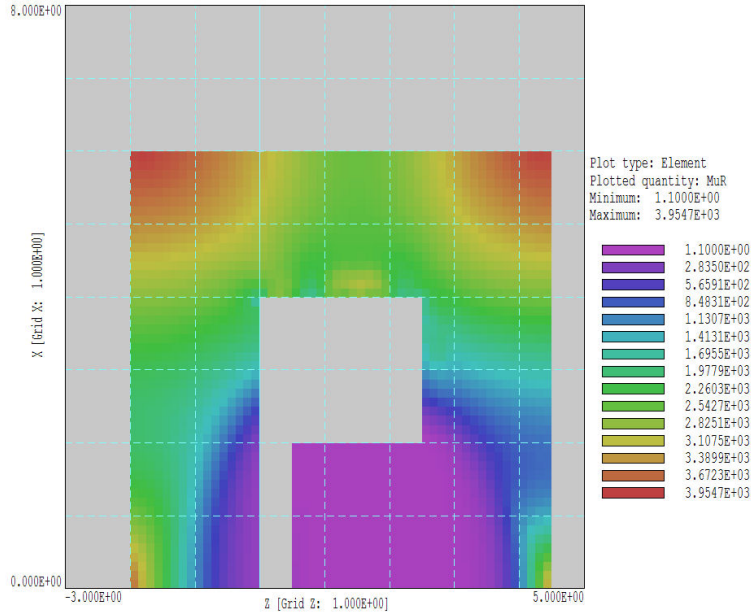

Figure 34: Spatial distribution of  $\mu_r$  for the final **Magnum** solution in the plane  $y = 0.0$ .
**PerMag** results at  $NCycle = 17$ . The peak value computed by **Magnum** is  $B_z = 2.595$  tesla. The **PerMag** and **Magnum** predictions differ by less than 1%. The agreement is striking considering that the two solutions use different mesh types and different functional forms for the material permeability. Finally, Fig. 34 shows the spatial distribution of  $\mu_r$  within the core. The figure shows the upper half of the core in the slice plane  $y = 0.0$  cm.